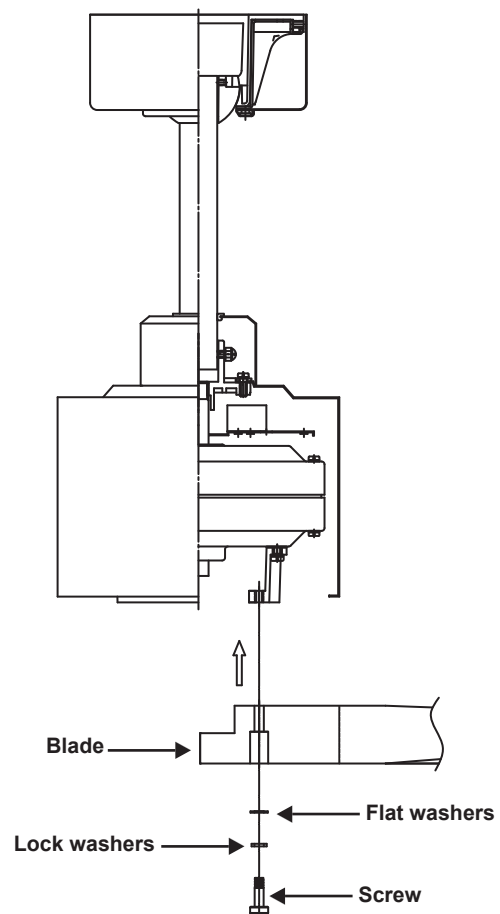

Figure 12
1. Fasten blade to motor using the flat washers, lock washers and screws supplied. (Fig. 12)
Install one 23A/12V battery (included). To prevent damage to transmitter, remove the battery if not used for long periods of time (Fig. 12 & 13).